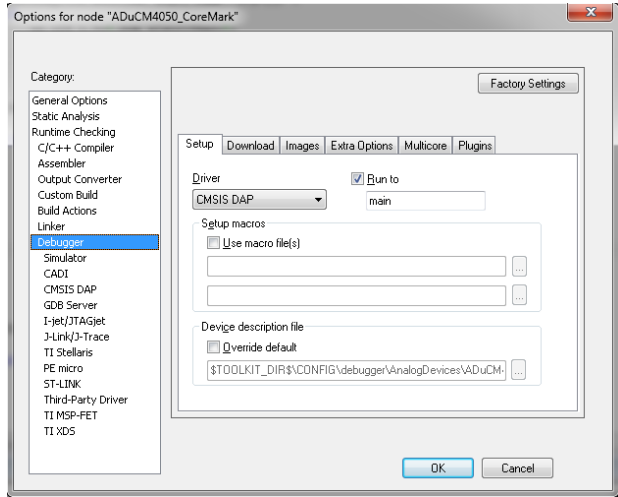
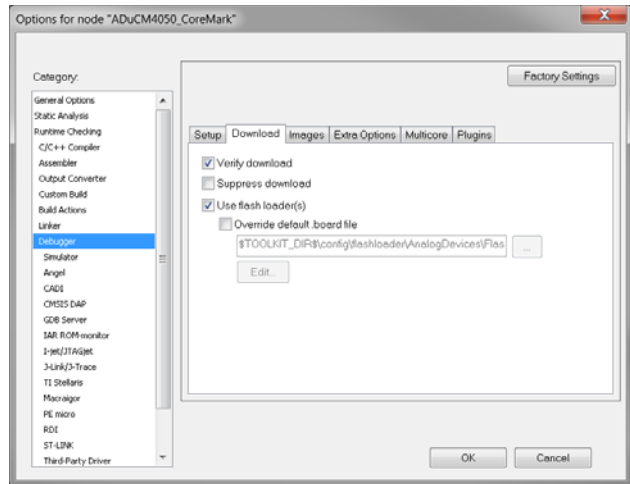

Figure 9. Debugger—Setup Configuration
Figure 10. Debugger—Download Configuration
- The debugger used is CMSIS DAP (see Figure 9). Verify that both **Verify download** and **Use flash loader(s)** are checked on the **Debugger > Download** menu, as shown in Figure 10.